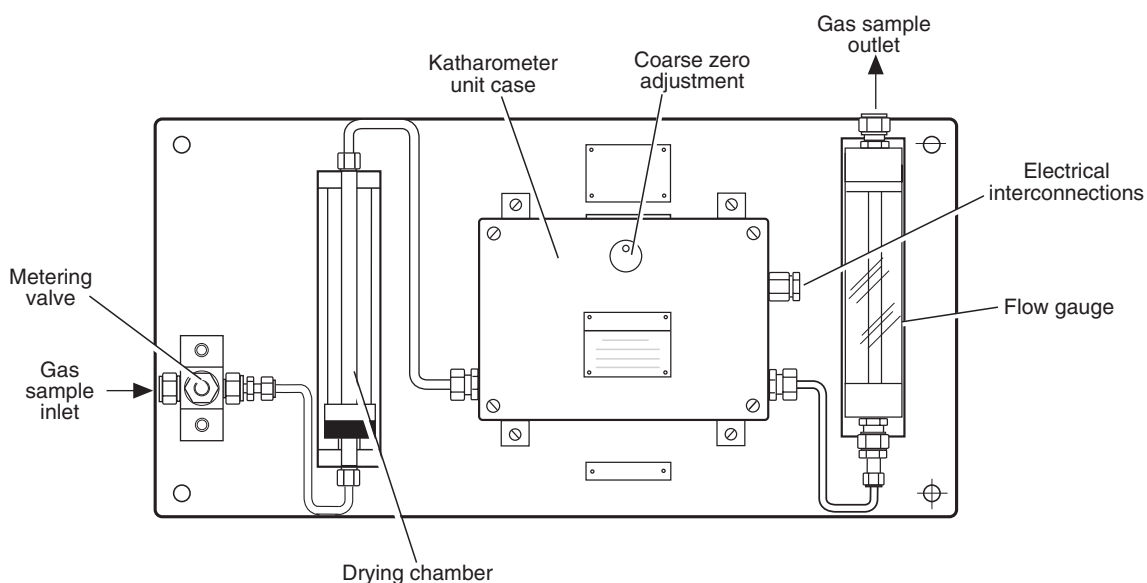

Fig. 6.1 Katharometer Analyzer Panel
6.1 Katharometer Analyser Panel - Filling the Drying Chamber – Fig. 6.1